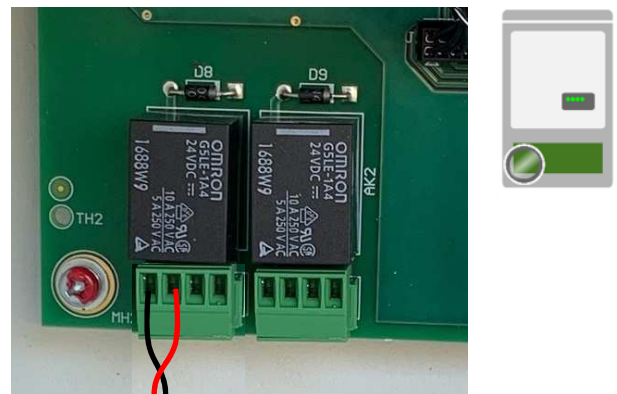

Figure 17: AK1 Evolve Hub control cable wiring.
1. Plug in the #3653 AK1 cable harness from the Evolve Hub to the AK1 relay terminal block as shown in figure 17.